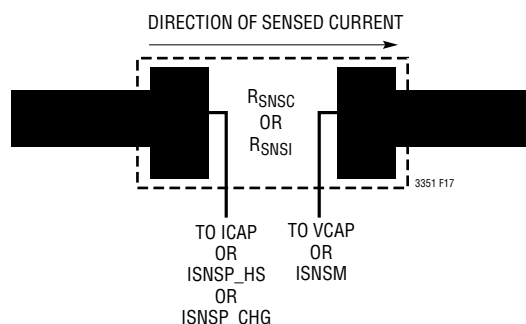

Figure 17.
6. Route I_{CAP} and V_{CAP} sense lines together, keep them short. Apply this rule to ISNSP_HS, ISNSP_CHG and ISNSM as well. Filter components should be placed near the part and not near the sense resistors. Ensure accurate current sensing with Kelvin connections at the sense resistors. See Figure 17.